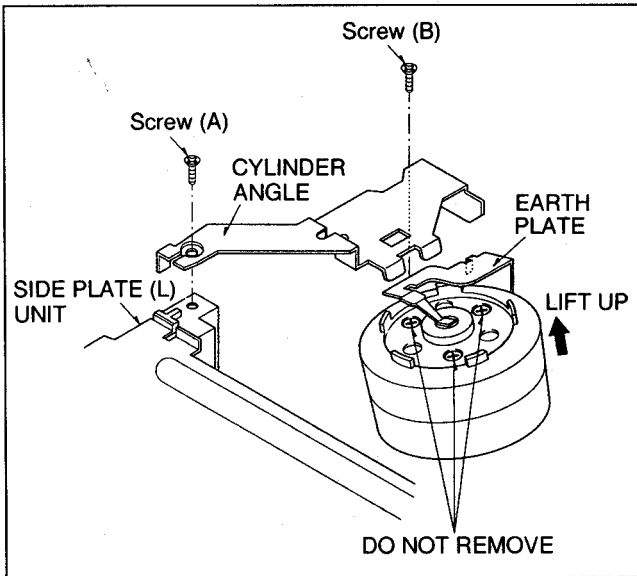

Fig. S5
- 3) Remove the Screw (A) and Cylinder Angle. (Fig. S5)
- 4) Remove the Screw (B) and Earth Plate. (Fig. S5)